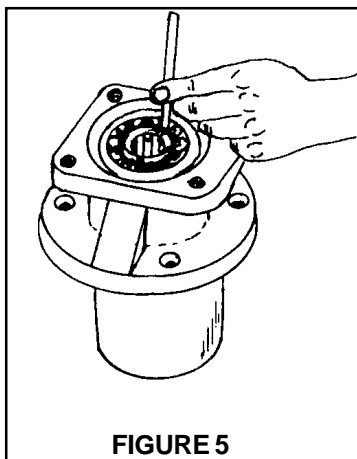

FIGURE 5
Using a chisel with a 3/16" wide cutting edge, place it parallel with and into one (1) of the staking slots in the threaded section of the shaft. Then drive it downward until the bent part of the staking flange on adjusting nut is bent outward and is free of the slot and threads of the shaft. This procedure is done in two (2) places on the shaft (**Figure 5**).